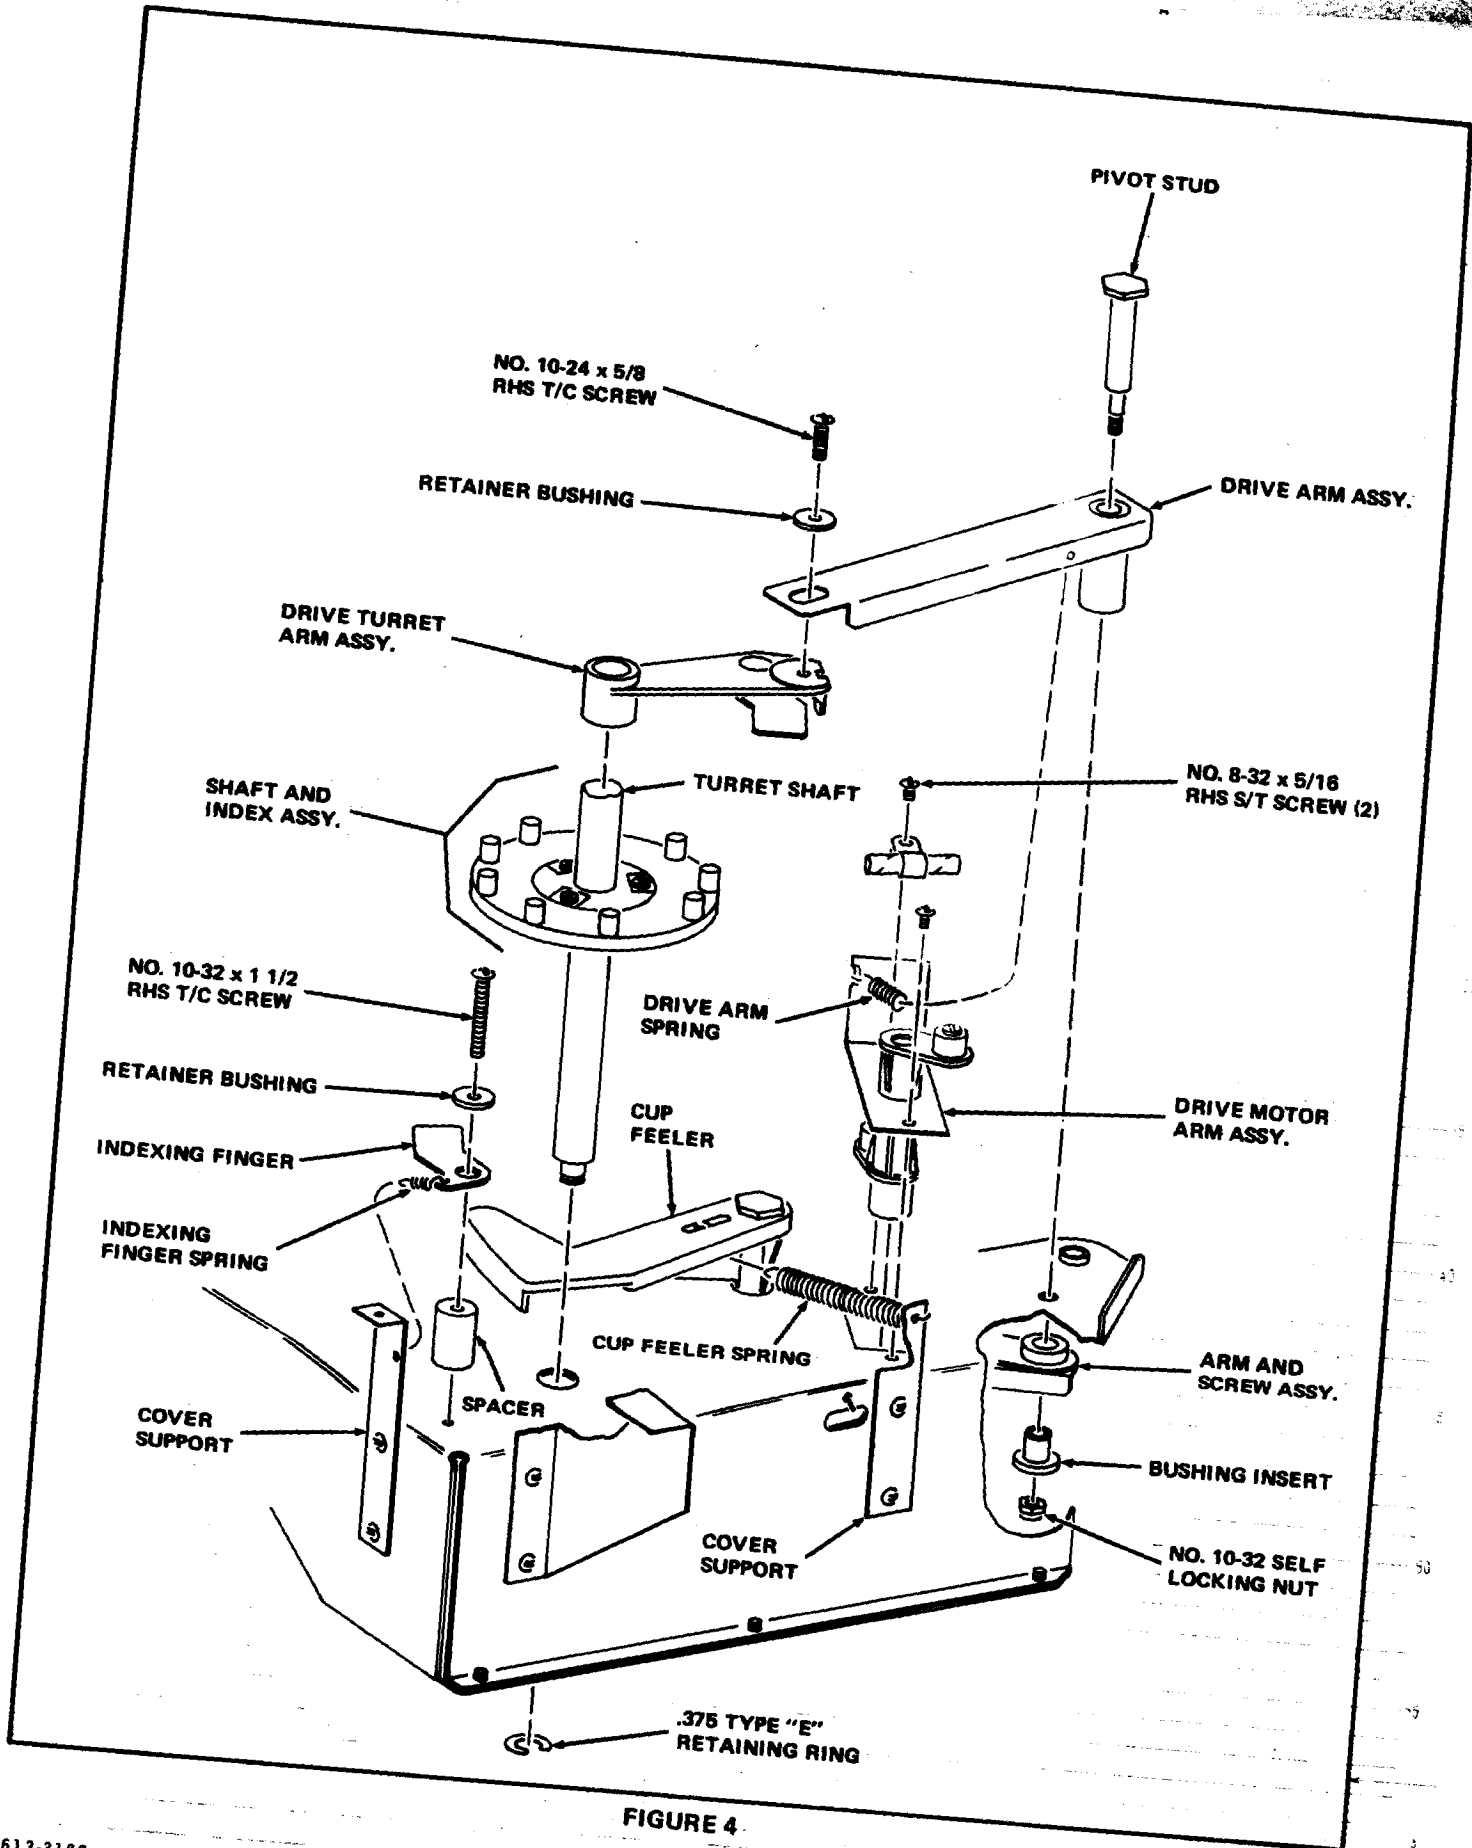

FIGURE 4
4. Remove the No. 10-24 x 5/8 Round Head Self Tapping Screw and Retainer Bushing from the top of the Drive Arm Assembly. See Figure 4.
5. Lift the Drive Turret Arm Assembly from the Turret Shaft. See Figure 4.
6. Remove the Indexing Finger Spring from the Cover Support on the Cup Dispenser Mechanism. See Figure 4.
7. Remove the No. 10-32 x 1 1/2 Round Head Self Tapping Screw, Retainer Bushing, Indexing Finger, Indexing Finger Spring and Spacer from the Cup Dispenser Top Plate Assembly. See Figure 4.
8. Remove the .375 Type "E" Retaining Ring from the bottom of the Cup Dispenser Mechanism and remove the Shaft and Index Assembly from the Cup Dispenser Mechanism. See Figure 4.
9. Remove the No. 10-32 Self Locking Nut, Bushing Insert, Pivot Stud and Drive Arm Assembly from the Cup Dispenser Mechanism. Retain the Bushing Insert and Pivot Stud. See Figure 4.
10. Remove the No. 8-32 x 5/16 Round Head Self Tapping Screws attaching the Drive Motor Arm Assembly to the Cup Dispenser Top Plate Assembly. See Figure 4.
11. Slide the Arm and Screw Assembly over and lift the Drive Motor Arm Assembly from the Cup Dispenser Mechanism. See Figure 4.